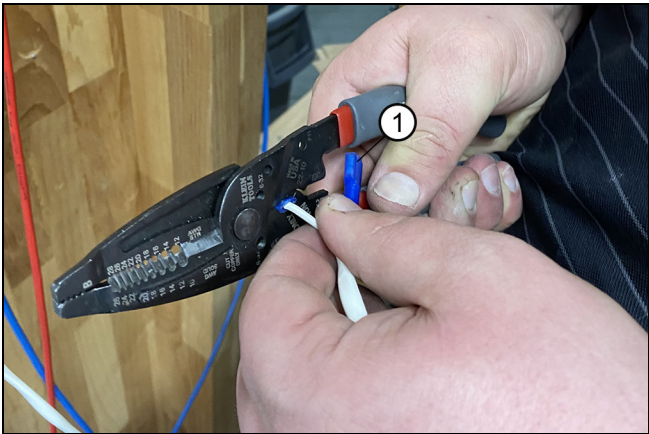

Figure 20
1. Attach the blue female cable crimp connectors to the 14-2 cable from the control box. See Figure 20.